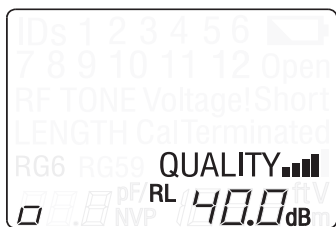

Figure 18. LCD Display Screen in Quality Mode
2. Press the QUALITY button to measure the network's return loss. The LCD display screen shows the following icons upon entering Quality Mode (see Figure 18):